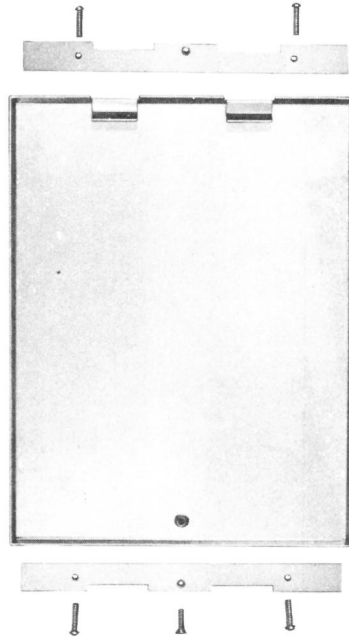

Fig. 17—107B Apparatus Blank and Mounting Hardware
(2) Blank, apparatus 107B. The 107B apparatus blank (Fig. 17 and 18) is used to cover the opening in a 113-, or 114-type apparatus box when a telephone set is not installed. It is furnished in clear anodized aluminum and is provided with mounting brackets and screws.